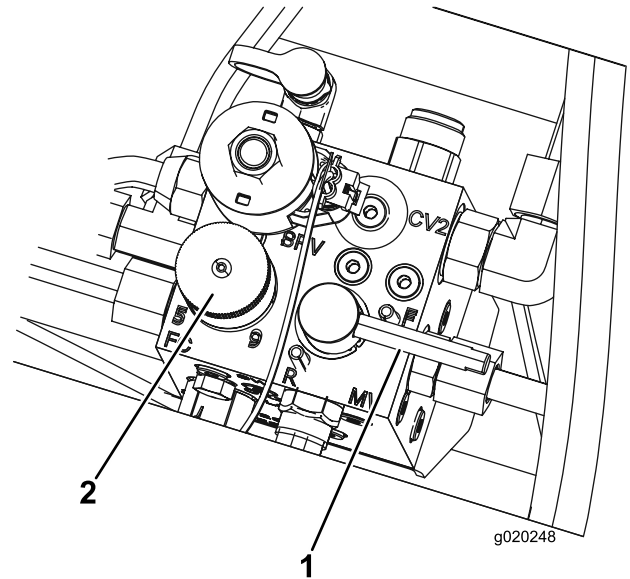

Figure 66
5. Set the reel speed control to position 1 (Figure 66).
6. Move the backlap lever to the R (backlap) position (Figure 66).